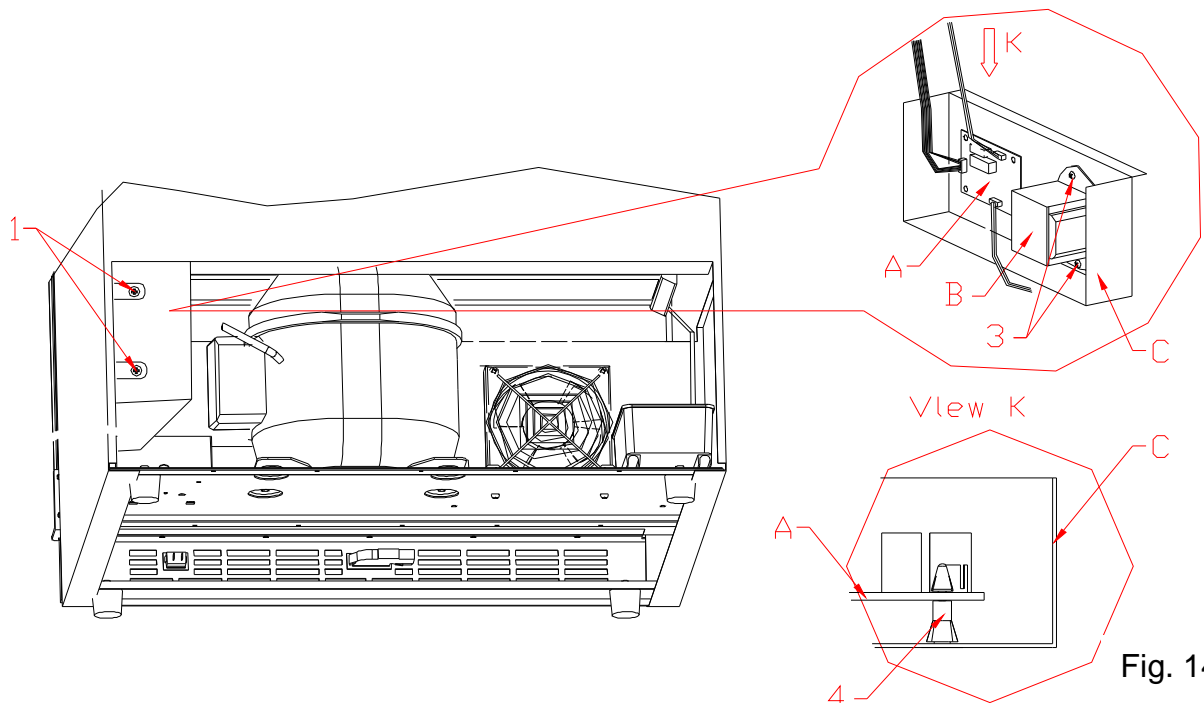

Fig. 14
- 1 >. Remove the 2 screws (1); (Fig.14)
- 2 >. Remove the electrical box; (Fig.14)
- 3>. Unplug all the connectors, then press the head of each of the four plastic screws (4), move up-ward the power PCB (A), then replace a new one. (Fig.14) (View K)
- 5>. Remove the 2 screws (B) and transformer, then replace a new transformer.(Fig.14)